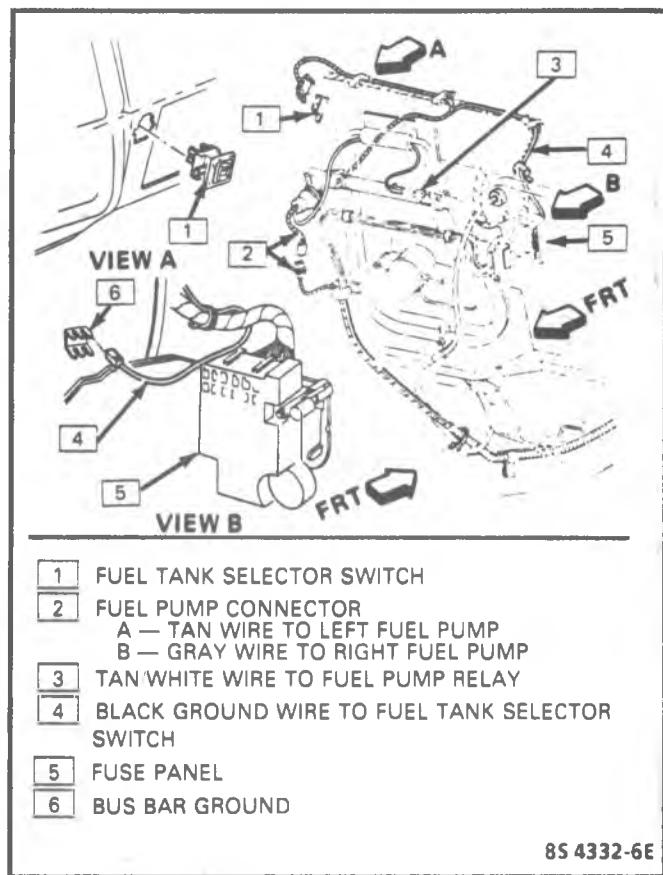

Figure 3 - 13 Fuel Tank Selector Switch
1. Disconnect fuel pump connector (Figure 3 - 13).
2. Disconnect fuel tank selector valve and meter switch connector (Figure 3 - 14).